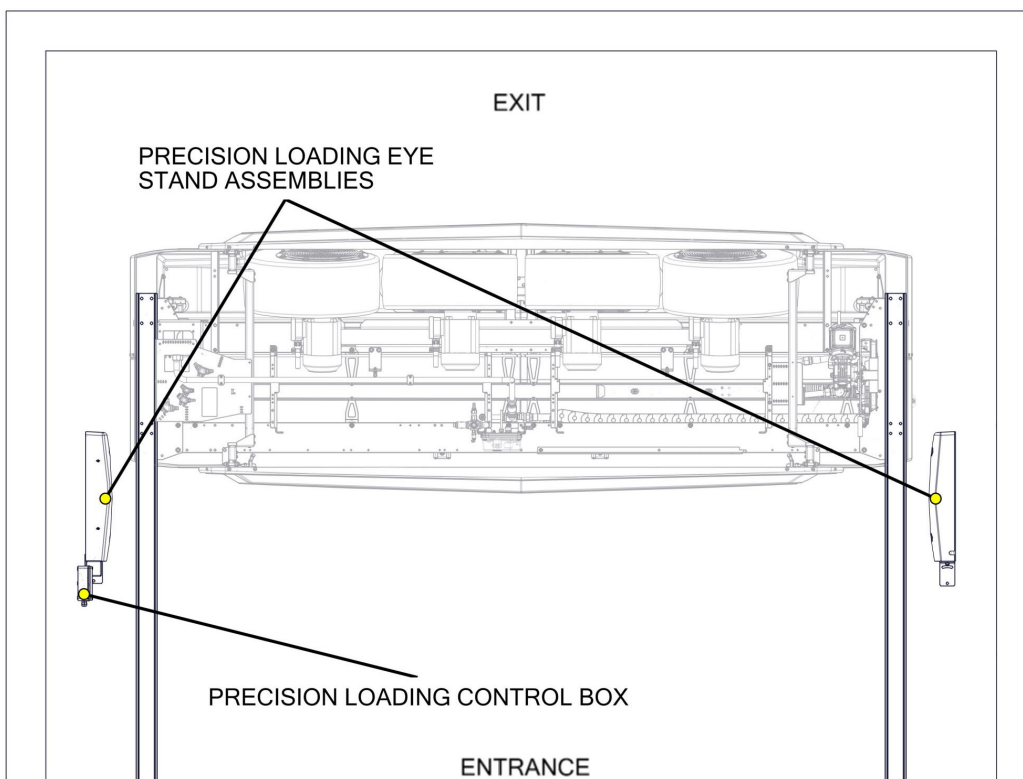
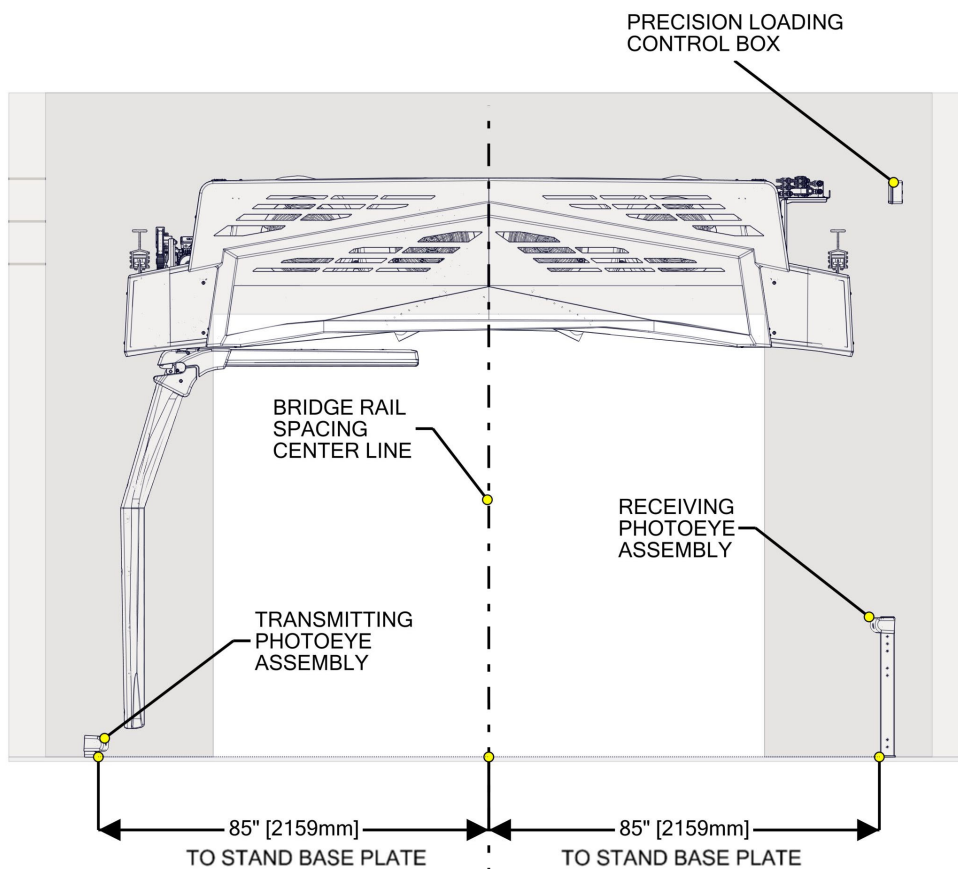

Figure 153 - Precision Loading System - Plan View
Figure 154 - Precision Loading System - Exit View
Figure 153 the recommended location. Figure 154 shows the view of the system from the exit end of the bay looking toward the entrance and Figure 170 shows the system in the elevation view.
- Measure and mark the locations for the floor stands and shown in Figure 154 and Figure 155.